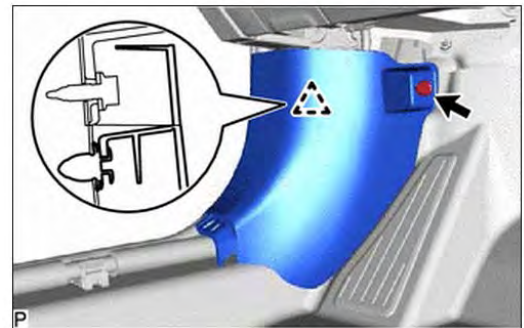

Figure 6
8. Remove the clip. Disengage the clip and remove the cowl side trim sub-assembly, LH (Figure 6).